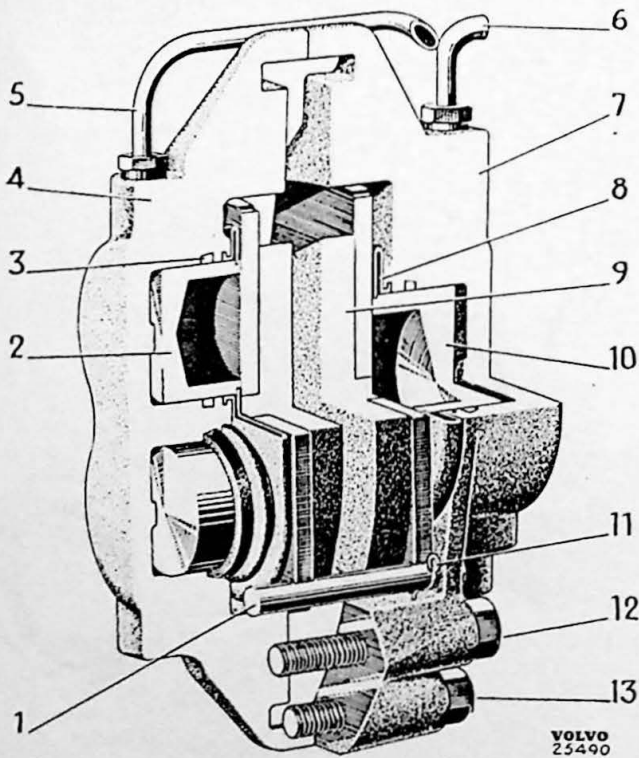

Fig. 7-3. Caliper
(9, Fig. 7-3) are provided with cast-in facings. When braking, one of the facings is pressed against the inner side of the brake disk by a large hydraulic plunger (10) and the other against the outer side by two smaller plungers (2). When braking ceases, the facings are moved back just enough so that they are always at a certain minimum distance from the brake disk. This means that the front wheel brake units are self-adjusting.
1. Remove the hairpin-shaped locking clips (11, Fig. 7-3) and guide pins (1). Pull out the brake blocks (9).
2. Remove the plungers and pull off the rubber cover (8).
3. Remove the sealing rings (3) from the cylinders with the help of a blunt tool. Be careful to ensure that the edges of the grooves are not damaged.
2. Fit new sealing rings (3, Fig. 7-3) in the cylinders. Place the rubber covers (8) in position and ensure that they enter the cylinder grooves.
4. Place the brake blocks (9) in position. If the two halves of the caliper have been disassembled, assemble these. Tighten the inner large attaching bolts (12) to a torque of 45—50 lb.ft. (6.2—7 kgm) and the outer smaller ones (13) to 25—30 lb.ft. (3.5—4.2 kgm). Fit guide pins and locking clips.